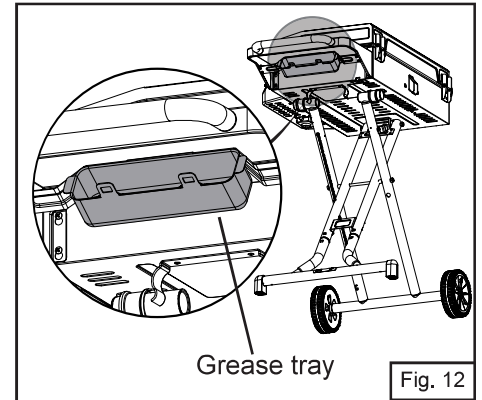

Fig. 12
12. Put the grease tray under the side table (Fig. 12).